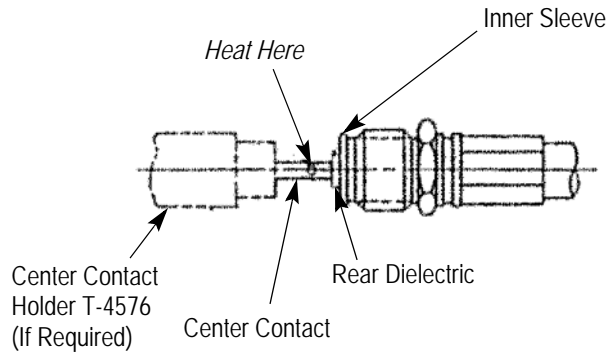

Figure 4
1. Place the center contact in a center contact holder, heat the center contact and push it over the inner conductor of the cable with the large diameter of the contact resting firmly against the rear dielectric. Refer to Figure 4.